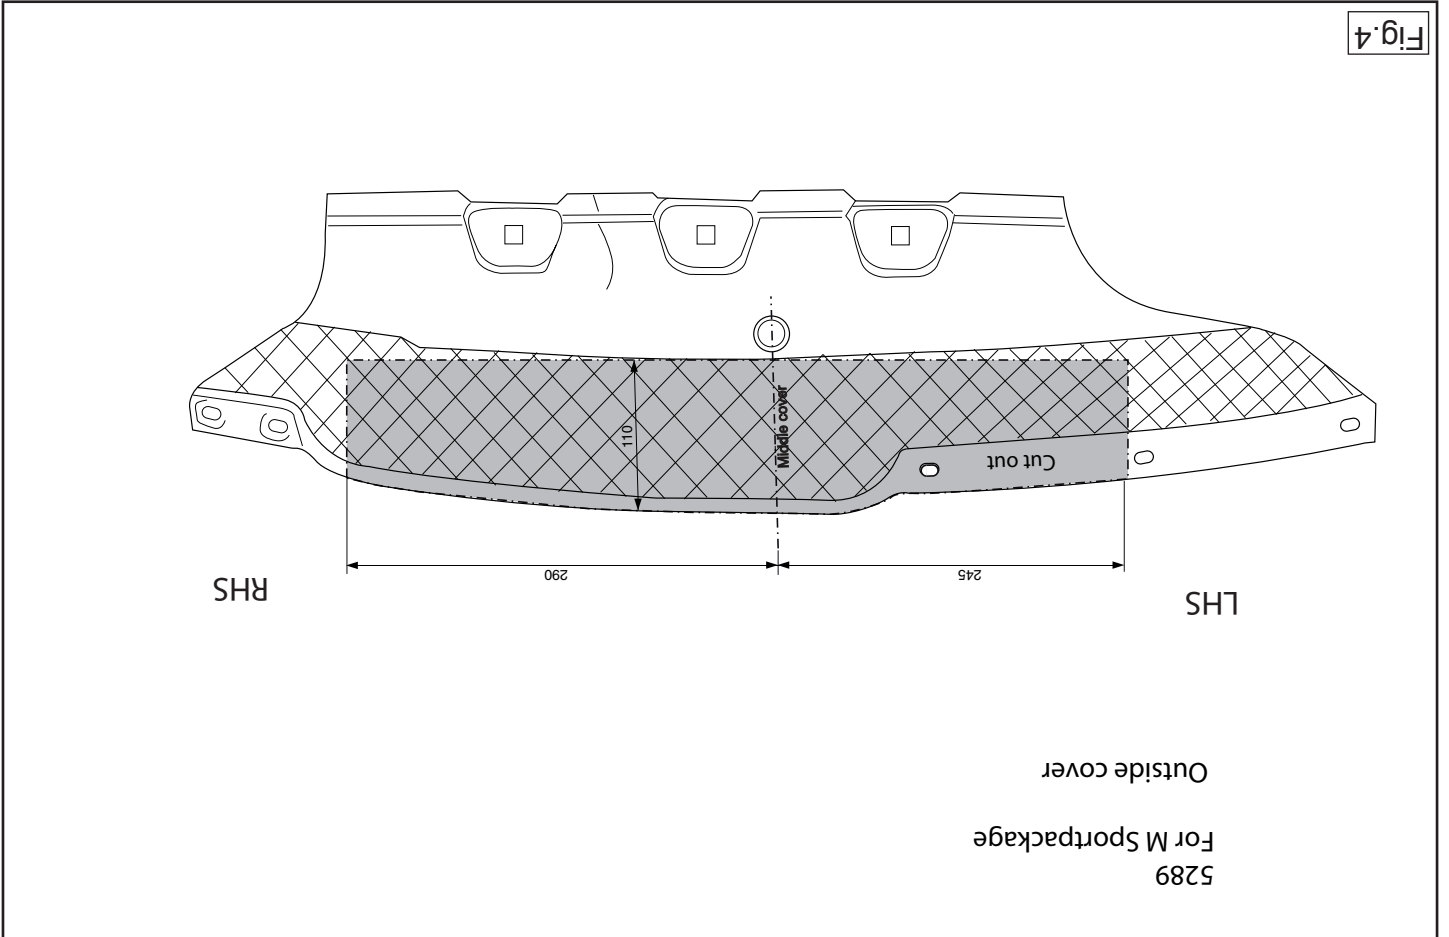

Fig.4
3. Saw out the indicated section in accordance with figure 4 and 5. Use the template to saw out the indicated section from the bumper. (place the template on the outside of the bumper)
3. Gemäß Abb. 4 und 5 das angegebene Teil herausschneiden.
3. Scier la partie indiquée conformément à la figure 4 et 5.